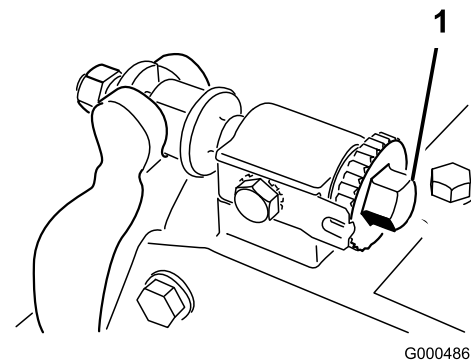

Figure 11
1. Position the cutting unit on a flat, level work surface. Turn the bedbar-adjusting screws counterclockwise to ensure that the bedbar does not contact the reel (Figure 11).